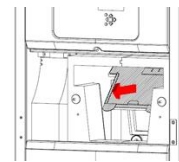

Fig. 2
- Fold out and remove the inner hatch by pulling the handle at the bottom of the hatch. (Are held by magnets) See fig.2.